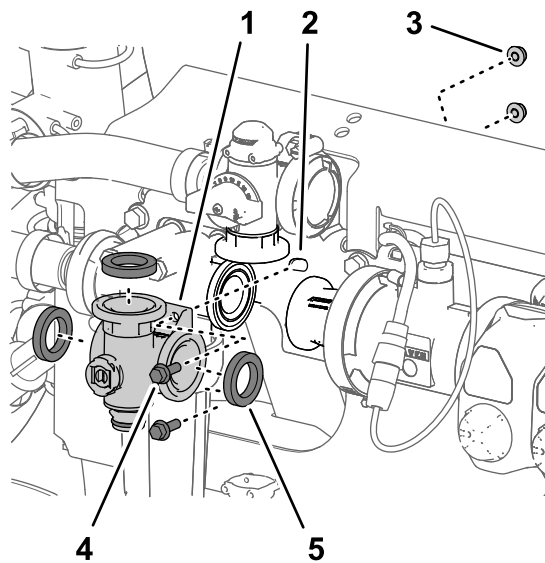

Figure 107
3. Remove the 2 flange-head bolts (1/4 x 3/4 inch) and 2 flange locknuts (1/4 inch) that secure the agitation-valve manifold to the valve support (Figure 107).
4. Remove the agitation-valve manifold and gaskets from the machine (Figure 107).